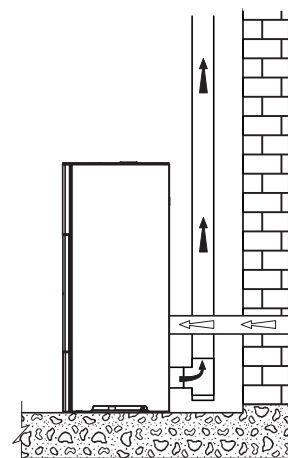

Fig. 5.6
- connect the stove combustion air intake to the fresh air opening using a special pipe (Fig. 5.6).